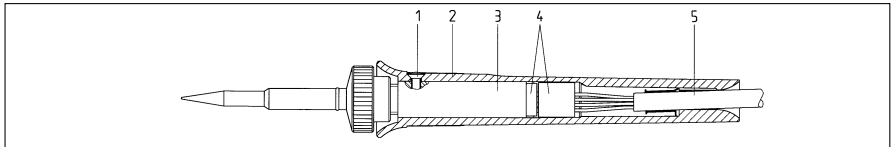

Figure 19
- Unscrew handle mounting screw (pos. 1/fig. 19).
- Pull off handle (pos. 2/fig. 19).
- Disconnect plug connection (pos. 4/fig. 19) between heating element and cable.
- Replace heating head (pos. 3/fig. 19).
- Restore plug connection (pos. 4/fig. 19) between heating element and cable.
- Push handle (pos. 2/fig. 19) onto heating head (pos.3/fig. 19).
- Screw in handle mounting screw (pos. 1/fig. 19).